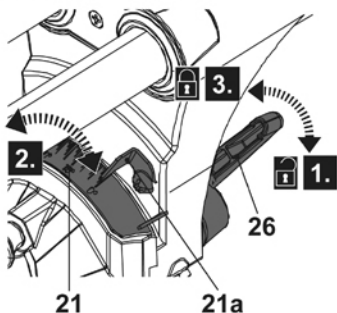

Fig. 7
- > Loosen the bevel locking handle (26) (Fig. 7, step 1).
- > Move the operating handle (2) (step 2) until the bevel angle pointer (21a) aligns with the required angle on the bevel scale (21).